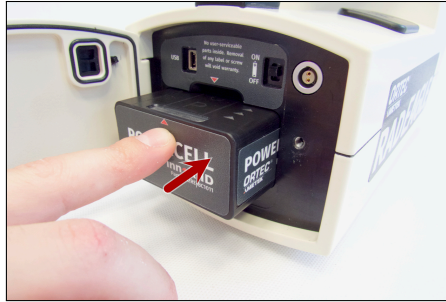

Figure 133: Snapping the POWERCELL into place
2. Push it lightly until it snaps into place (Fig. 133, p. 111).